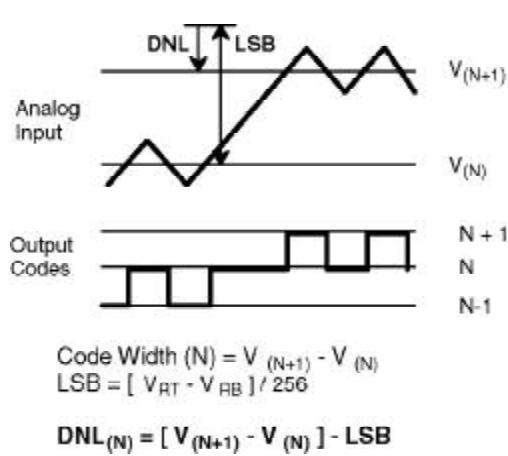
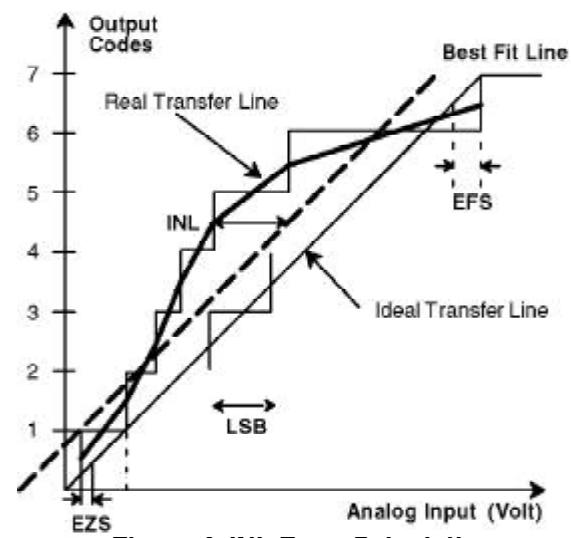

Figure 3. DNL Measurement
Figure 4. INL Error Calculation
1. The difference between the measured and the ideal code width ( $V_{REF}/256$ ) is the DNL error (Figure 3). The INL error is the maximum distance (in LSBs) from the best fit line to any transition voltage (Figure 4). Accuracy is a function of the sampling rate (FS).